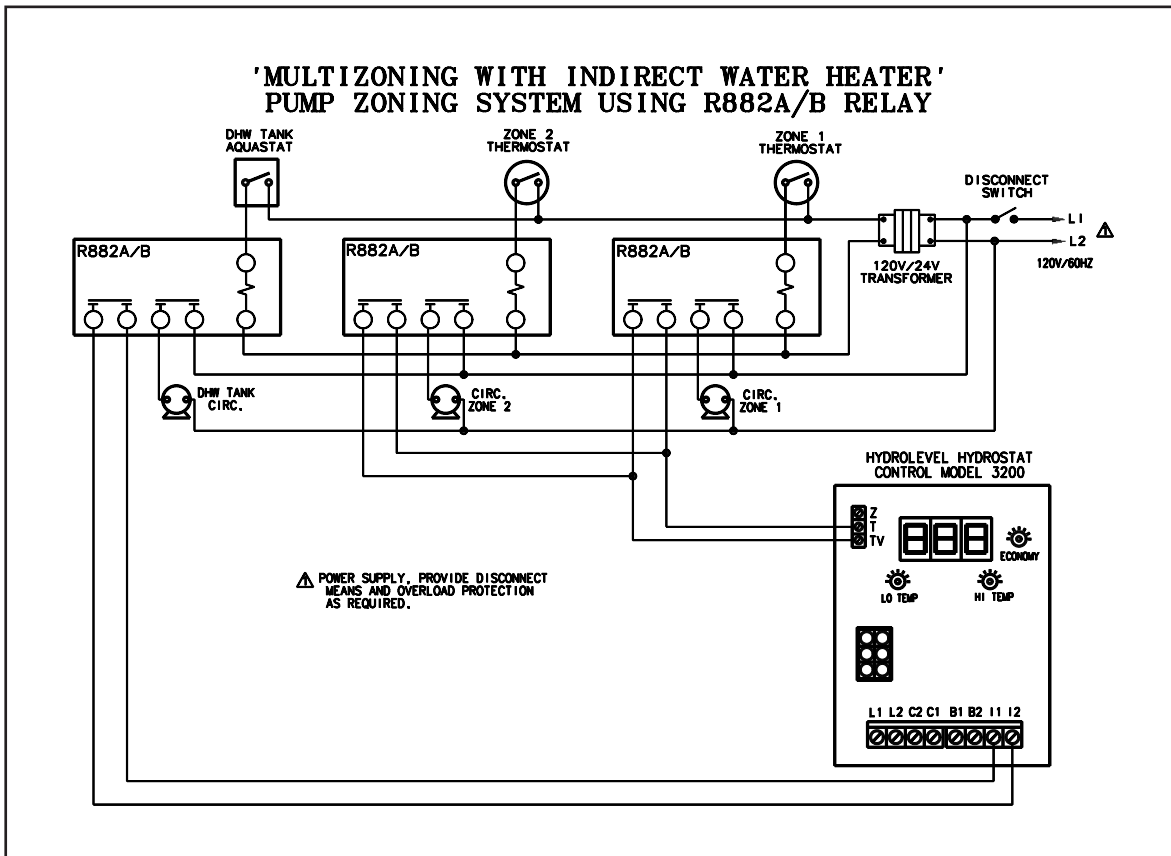

Figure 6. Multizoning of Sentry boiler-2 zone system pump zoning system using R882A/B relays.
If the system includes indirect water heater, the indirect signal must be sepated from heating zone(s) system. See figure 6 and 8. Follow steps below:
- c. Power DHW and heating zone(s) circulators through end switch relays as shown on figure 6. Do not connect heating zone(s) circulators to C1 and C2 of the control.